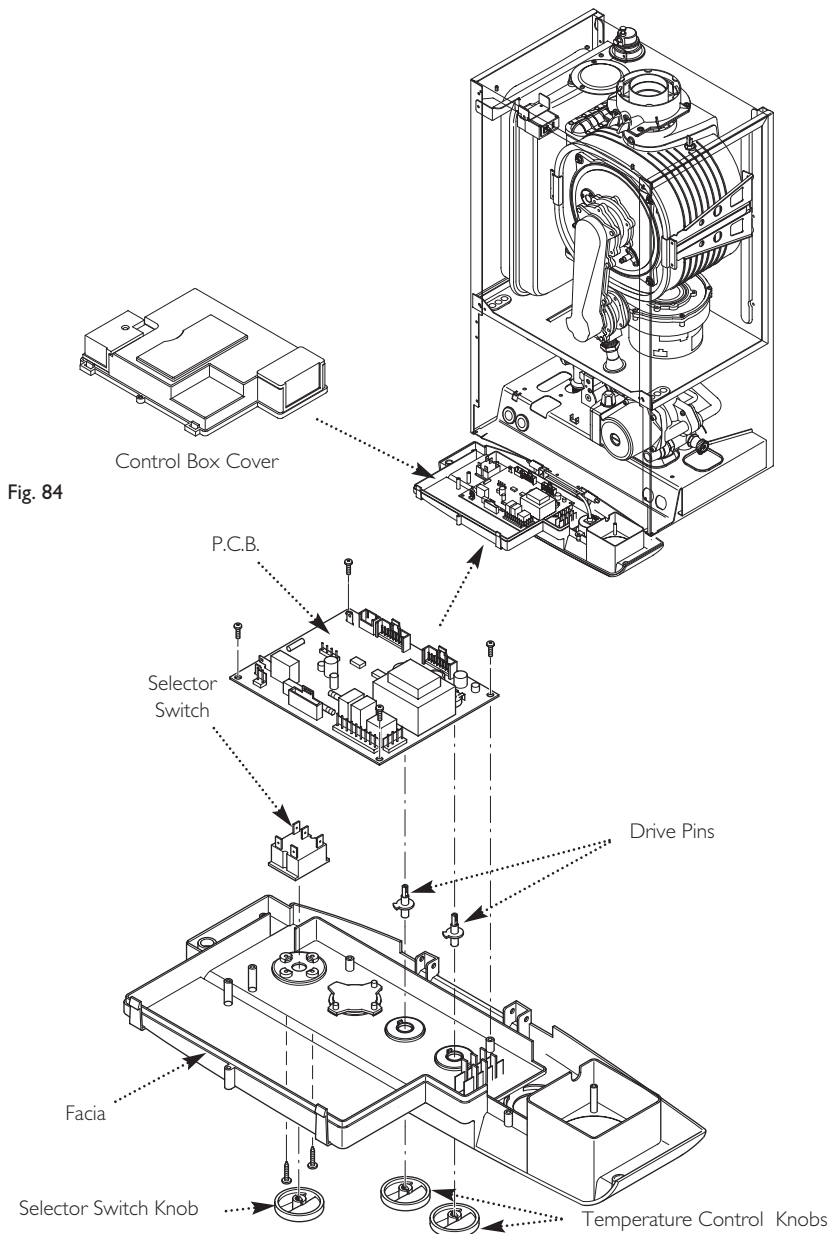

Fig. 85
14.18 P.C.B. (Fig. 85)
14.19 Selector Switch (Fig. 85)